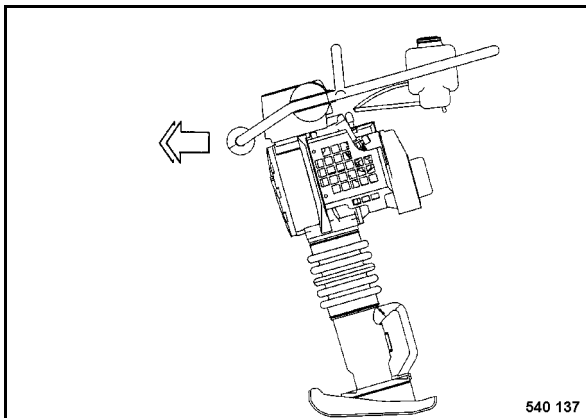

Fig. 19
- The travel speed can be influenced by altering the load on the steering handle (Fig. 19).